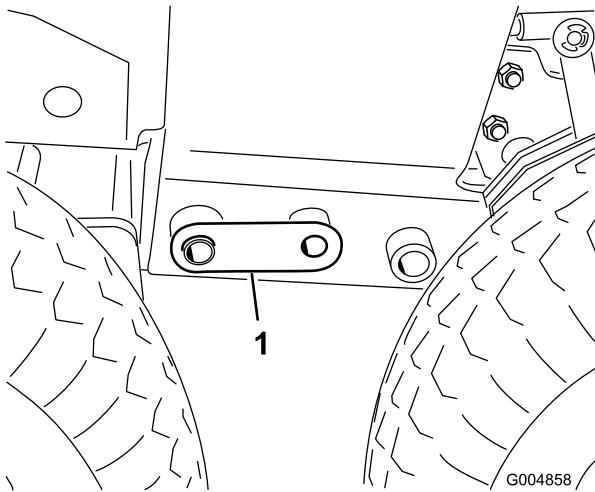

Figure 48
7. Connect the drive shaft to the gear box shaft in the winter frame and torque the bolts (5/16 inch) to 175-225 in-lb (20 to 25 N·m). Install the roll pin (Figure 48).
9. Adjust the floor jack to line up the 1.00 inch holes in the frame and install a coupler pin on each side (Figure 48).